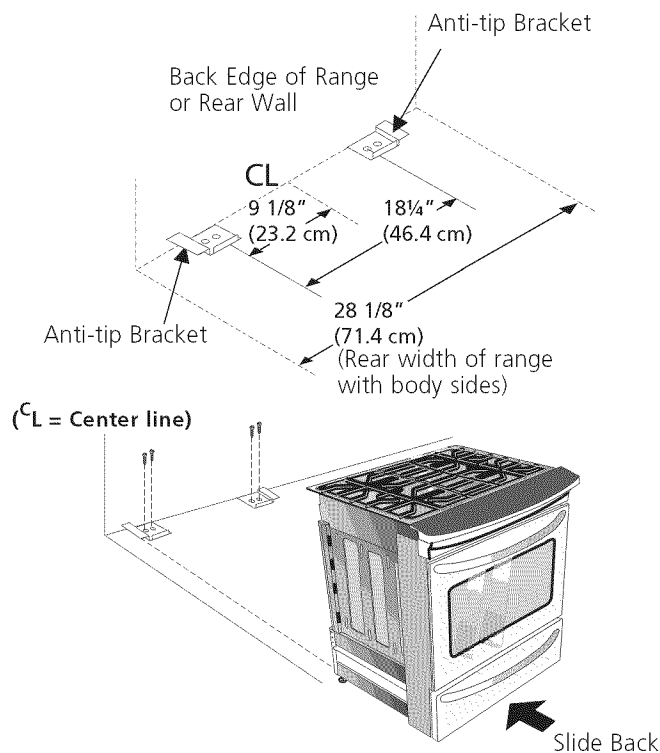

Figure 17
1. Unfold paper template and place it flat on the floor with the back and side edges positioned exactly where the back and sides of range will be located when installed. (Use the diagram below to locate brackets if template is not available. (Figure 17))